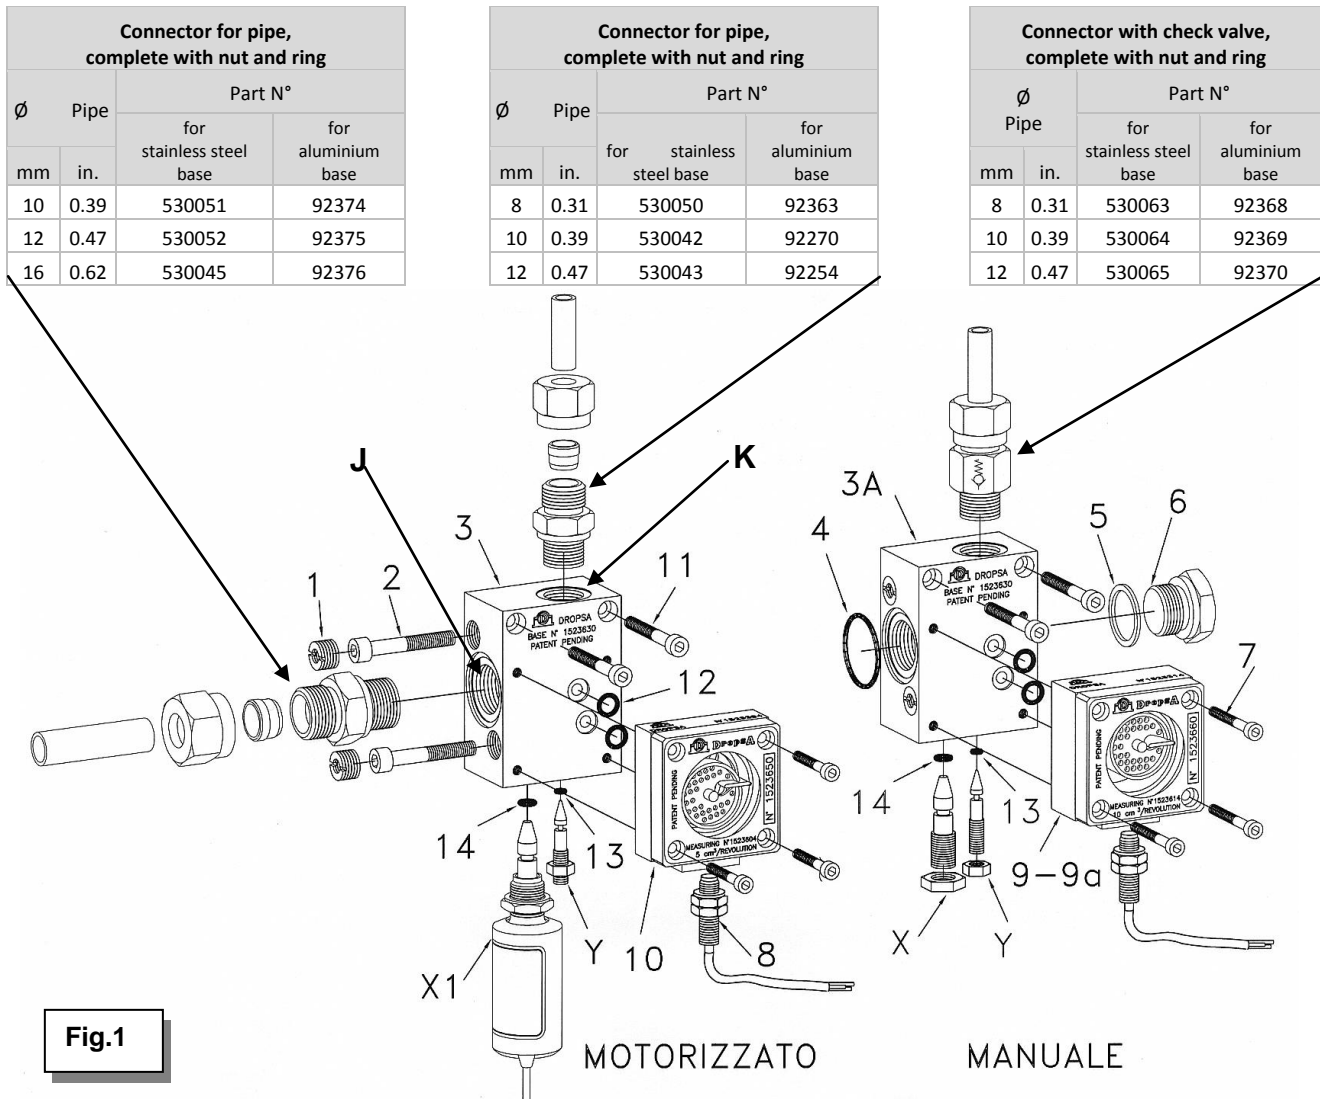

Fig.1
- Connect inlet (par. 11.3, fig.1, pos. J) and outlet (par. 11.3, fig.1, pos. K) piping.
- 1) Unscrew the two grub screws (par. 11.3, fig.1, pos.1) of the next flow meter.
- 2) Tighten the two screws (par. 11.3, fig.1, pos.2) to the previous flow meter. Pay attention to the O-Ring correct position to prevent damages during assembling.
- 3) Screw again the grub screws (par. 11.3, fig.1, pos.1) to the previous flow meter.
Output adjusting of the *manual FLOWMASTER* is easy: through the use of two needle valves the output adjustment can be coarsely (par. 11.3, fig.1, pos. X) or finely adjusted (par. 11.3, fig.1, pos. Y).
2. Close the *fine adjustment* valve (par. 11.3, fig.1, pos. Y), by turning clockwise with a M3 allen spanner.
3. Increase or decrease the output by turning counterclockwise or clockwise, with a M5 allen spanner, the *coarse adjustment* valve (par. 11.3, fig.1, pos. X).
- Increase or decrease the output by turning counterclockwise or clockwise, with a M3 allen spanner, the *fine adjustment* valve (par. 11.3, fig.1, pos. Y) to suit individual flow requirements.
The *fine adjustment* valve (par. 11.3, fig.1, pos. Y) only is used for the size "A" module.
- Close the *fine adjustment* valve (par. 11.3, fig.1, pos. Y) and let the electronic control equipment start automatically in line with the setting data.